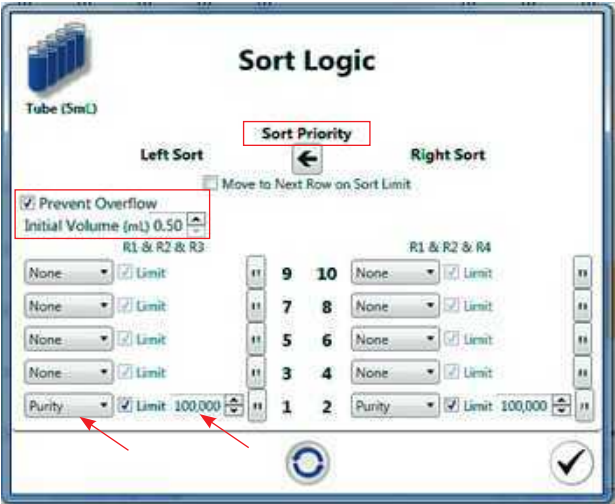

Fig. 70. Sort Logic window.
11. Define the sort logic parameters in the Sort Logic window (Figure 70) by setting the sort mode (purity, enrich, or single) and event limit for each collection position.